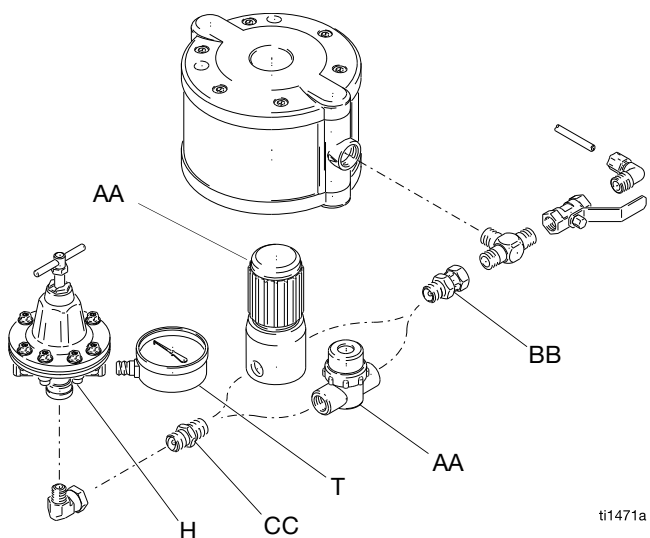

FIG. 1
Refer to FIG. 1. Install the fluid filter between the pump fluid outlet and the gun fluid hose connection. If a fluid regulator (H) is present, it must be rotated so the gauge (T) will clear the filter.